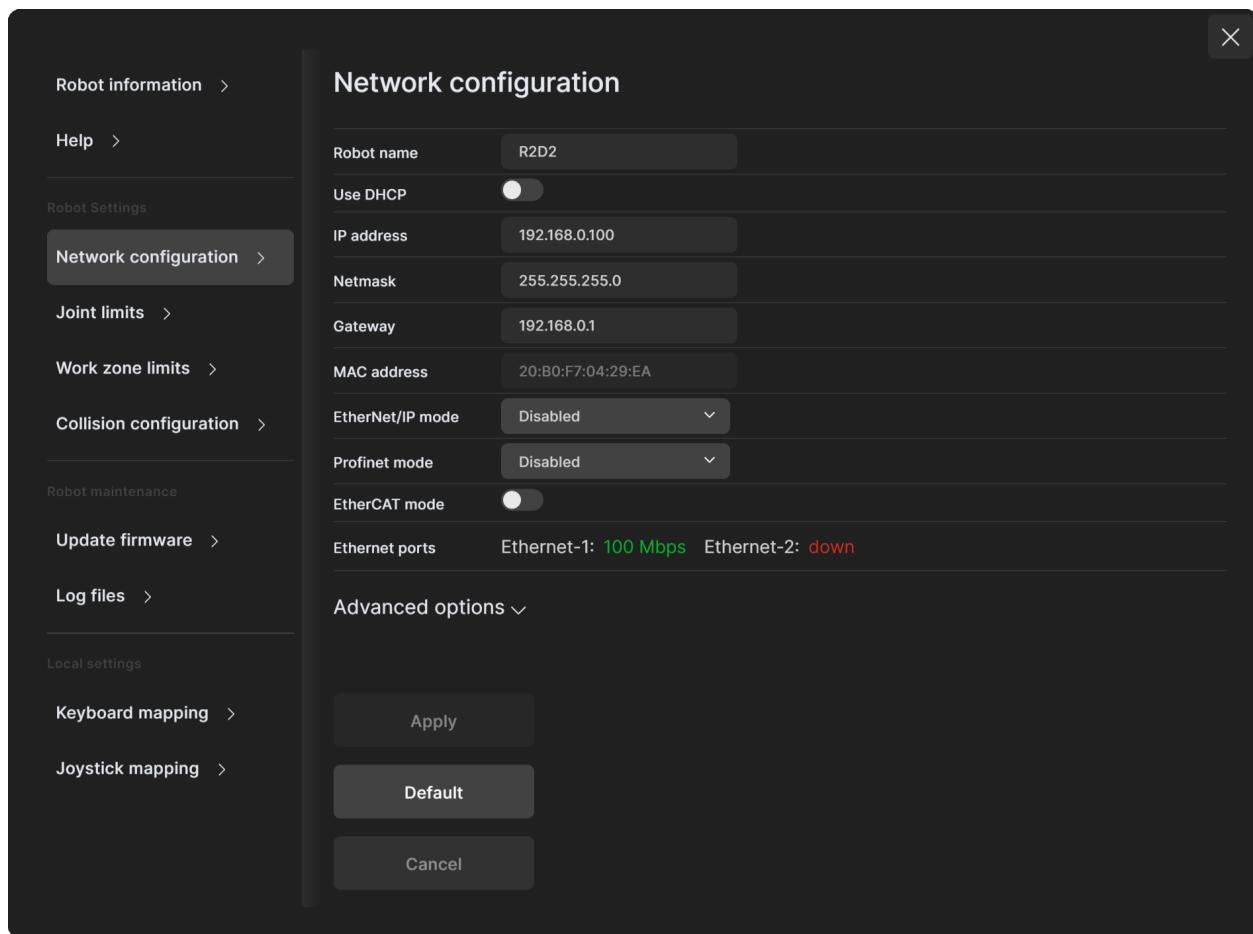

Figure 25: Changing the robot's network configuration
3. Depending on your configuration, activate the toggle DHCP to automatically receive an address from your router or leave untoggled to force a specific IP. You don't need to reboot the robot; the new configuration will be applied as soon as you click on the Apply button (Figure 25).